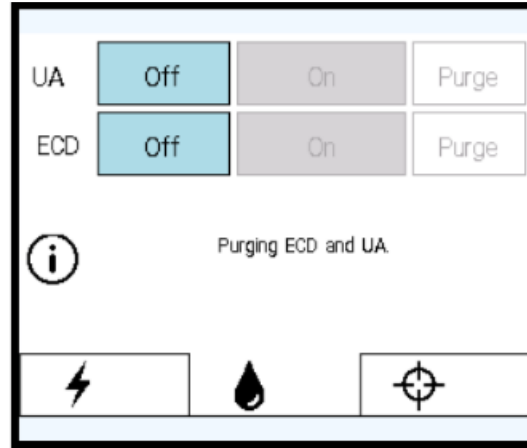
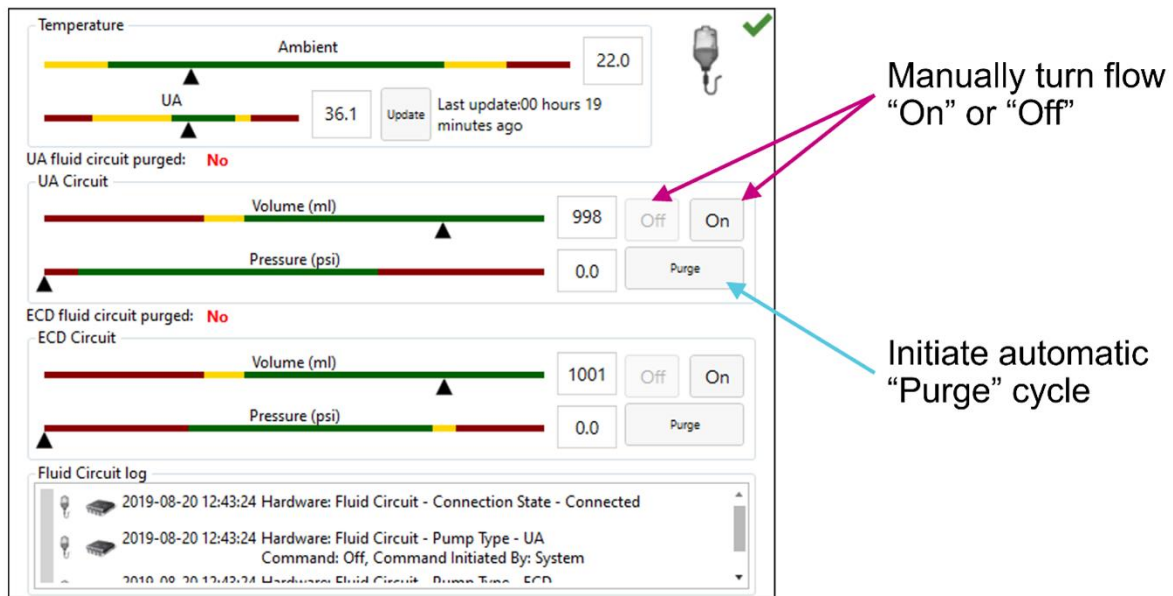

Figure 7: PSIB Display - Fluid Circuit tab
Figure 8: Fluid Circuit information box in TDC Setup workspace
5. On the PSIB display, choose the **Fluid Circuit** tab (*Figure 7*) and **Purge** the UA and ECD fluid circuits. You can also do this from the TDC by pressing **PURGE** beside the fluid circuit (FC) quadrant (*Figure 8*).
- a. If the purging cycle ends before completing the steps in this process, return to the PSIB display (or TDC window) and manually turn the flow on by clicking **On**. The fluid pumps will remain on until you click **Off** (Figure 8).